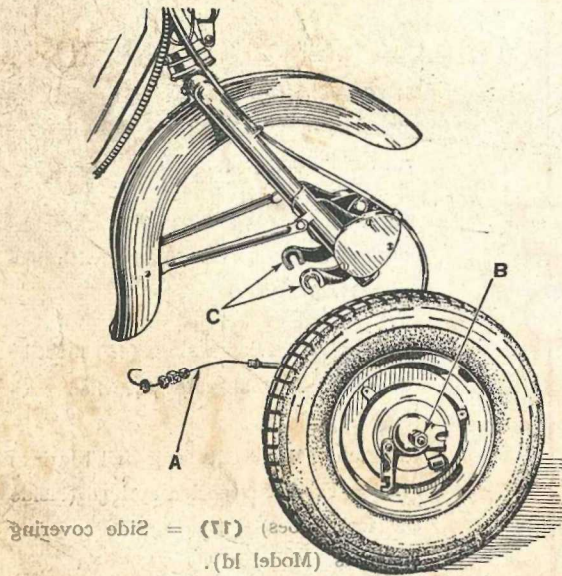

Fig. 7
To remove the front wheel on both models (fig. 7) first disconnect the brake control cable (A), then loosen the